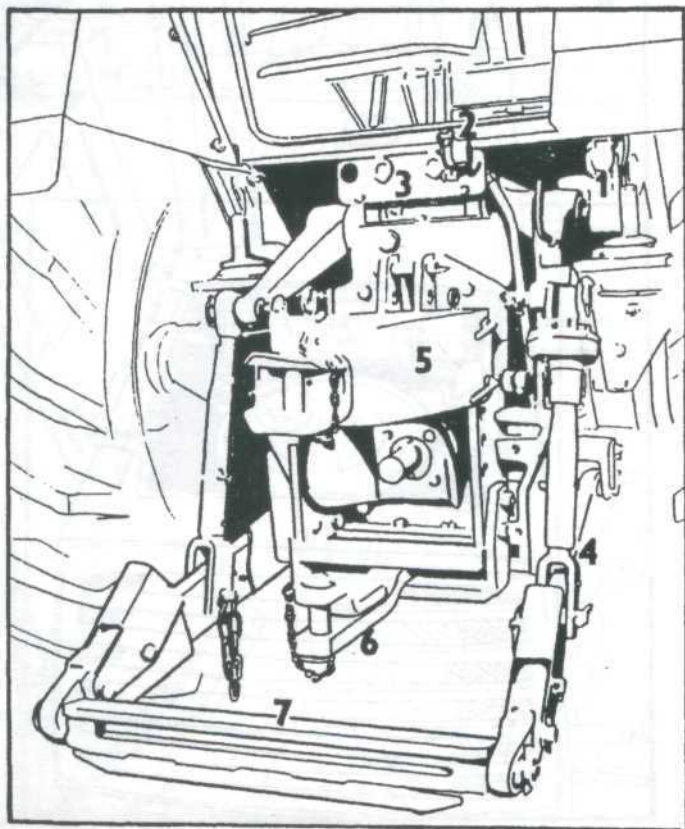

Fig. 11
- Seven-pole plug socket (Fig. 11/1) serves to connect the electrical equipment of the trailer or attached implement
- Air coupling hose (Fig. 11/2) interconnects the air system of the trailer or attached implement
- Quick couplings (Fig. 11/3) serve to attach trailer hydraulic cylinders